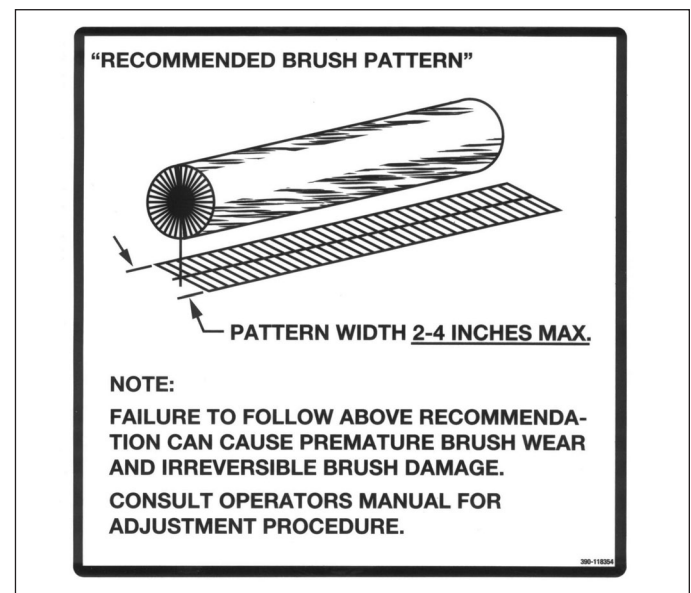

Figure 4. Brush Sweeping Pattern
5. Check the width of the swept area. The brush pattern should be 2-3 inches wide, running the length of the brush. (See Figure 4)